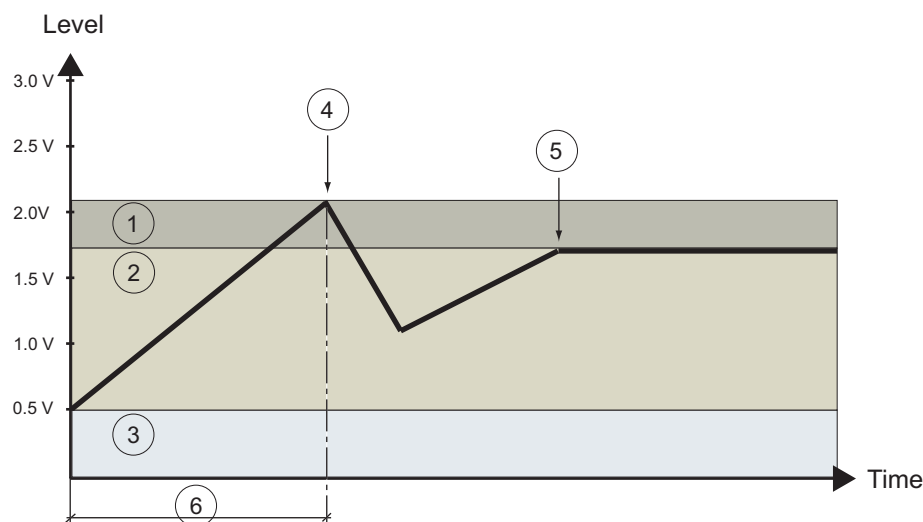

Fig 228
- ▶ Water is filled in by the device up to the calibration point (Fig. 228 Pos.1)
Calibrating procedure: The filling quantity (l/s) is calculated from the opening time of the intake valve until the calibration point is reached (Fig. 228 Pos.6). The calibration point corresponds to the specified quantity of water.
- ▶ Circulation pump switches on (Fig. 228 Pos.4)
- ▶ Dynamic filling procedure starts. The filling procedure is terminated when the operating level is reached (Fig. 228 Pos.5).
If 1.7 Volts (Fig. 228 Pos.2) has not been reached, additional water is filled in. When the limit (5 minutes) is exceeded, Error Message 141 "no cold water" (see Chap. 10.3 "Error display / error code table / cause and remedy").